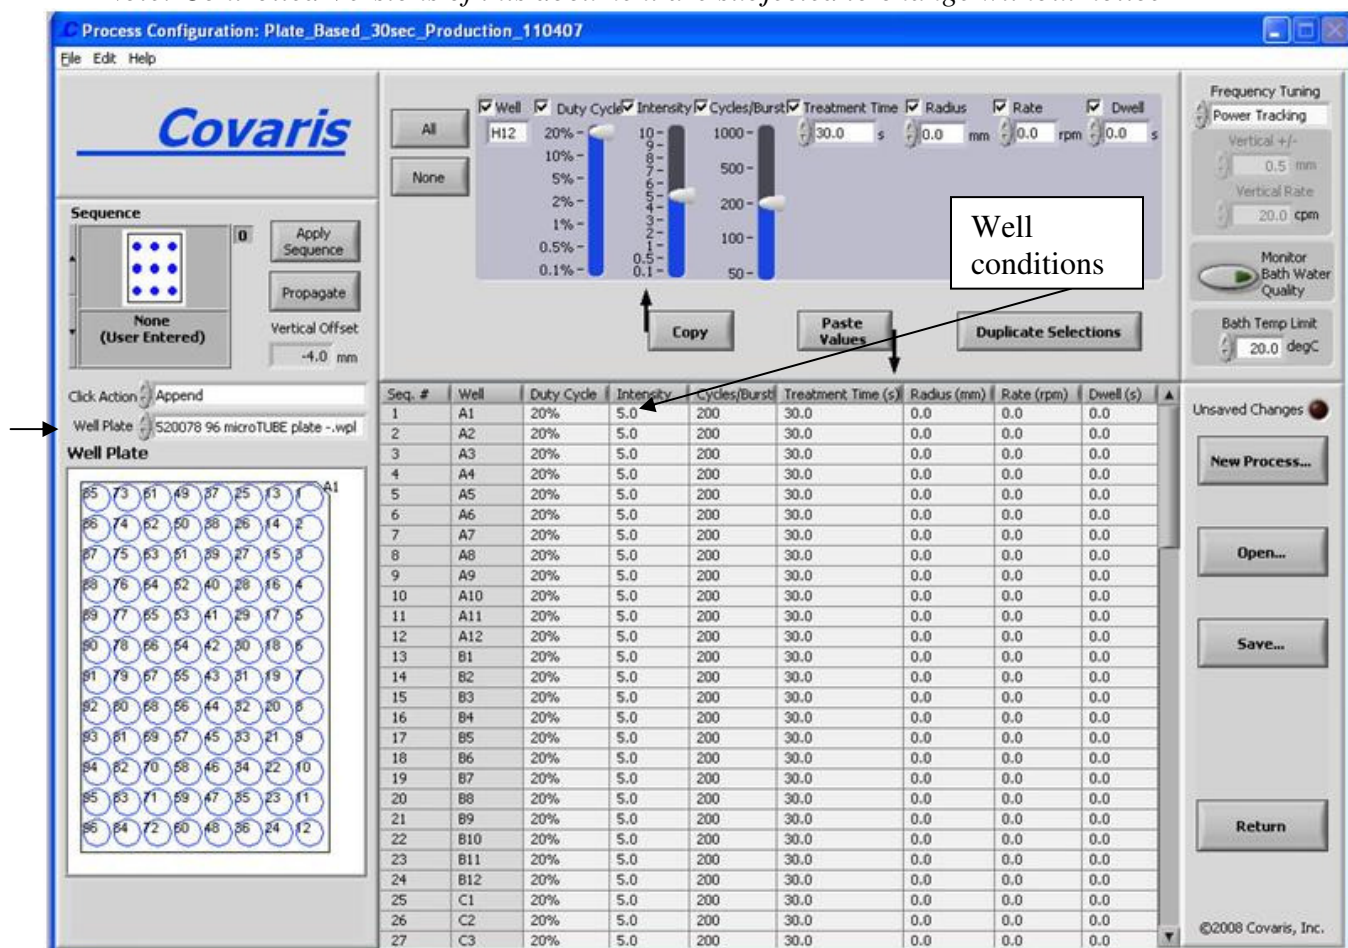

Figure 9: Covaris E-series Process Configuration Screen
2.2.3. From the “Configure” menu, select only wells containing sample. Select the wells not used by clicking the first well, then hold the SHIFT key and scroll to the last unused well and select it. All wells in between these will be highlighted. Press DELETE. Confirm the wells remaining match your samples. See Figure 9.